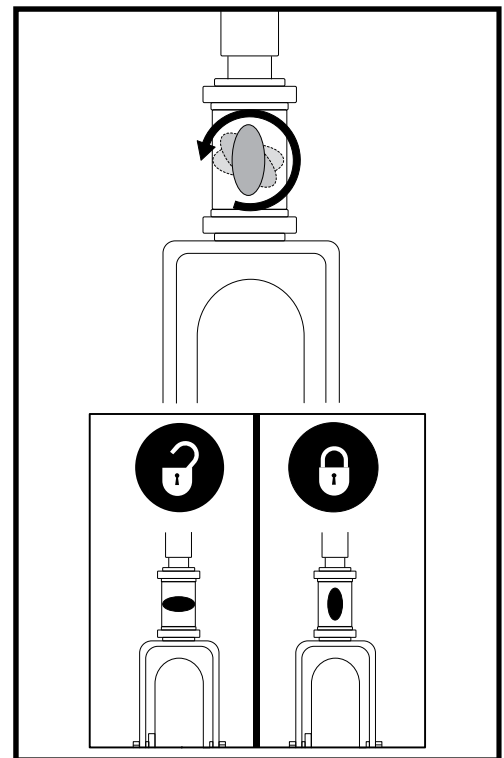

Figure 28. Tiller Lock Knob (Model 104 only)
1. Remove the key from the key switch. For model 104, lock the tiller in the straight ahead position by pushing the tiller lock knob in and turning it clockwise 90°. See figure 28. The front wheel must face forward in order to lock the tiller.